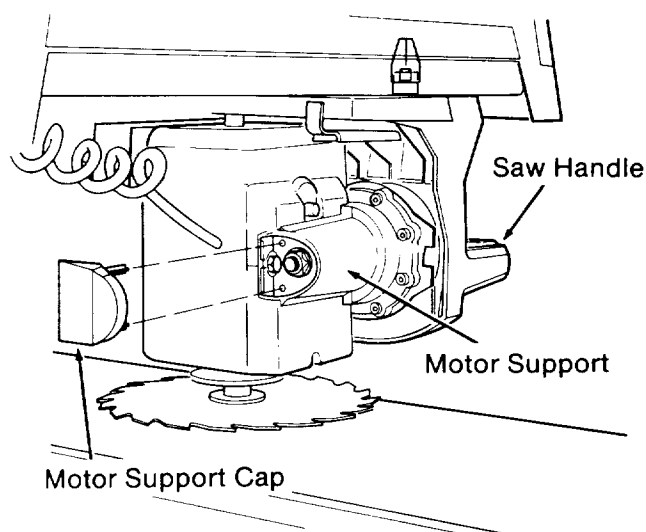

Fig. 82
18. Snap the *motor support cap* into the back of the *motor support*. The *cap* is in the loose parts bag. (Figure 82)